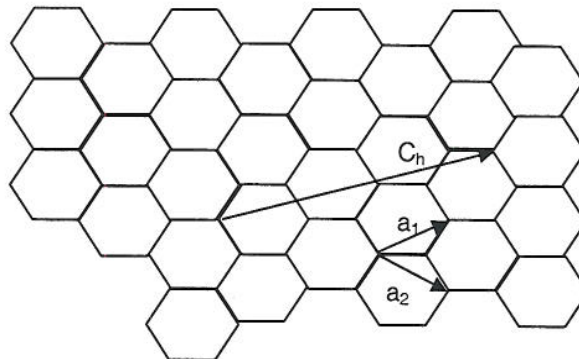

Figure 4: Honeycombed lattice of a graphene sheet.
- i) Given the unit vectors a_1 and a_2 and the angle θ between the direction of a_1 and the chirality vector C_h as given in fig.4, plot the chirality vector for a zig zag and for a stair case carbon nanotube. [4]